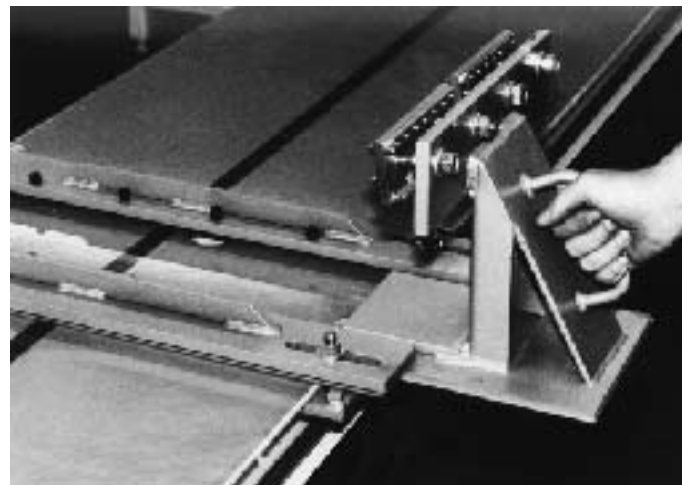

Figure 3
3. Slide anchoring stand (with clamps) into clamp mount and position at desired location. (See Figure 3.)